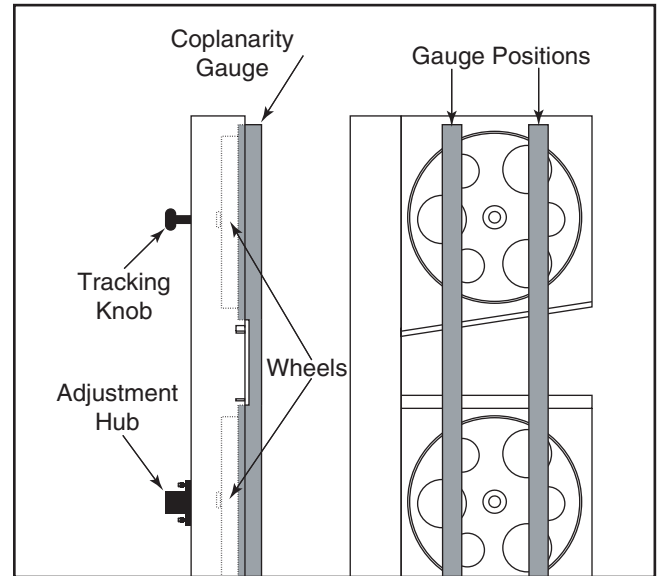

Figure 67. Checking for coplanarity.
- Place your coplanarity gauge up against both wheels in the positions shown in **Figure 67**.